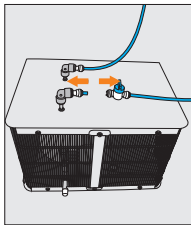
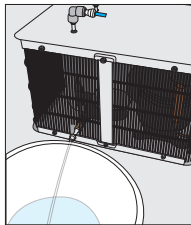
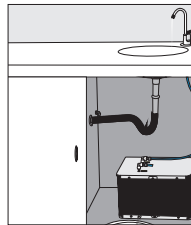
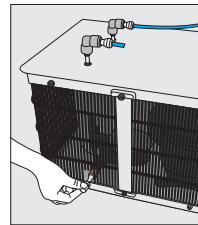

Figure 22
Figure 23
Figure 24
Figure 25
- 1.2 Disconnect the water line from the "Water Inlet" point (Figure 22). Undo the drain cap and completely drain all the water from the reservoir into a bucket for disposal (Figure 23). Leaving the faucet valve open will speed up this operation (Figure 24). Replace the cap (Figure 25). Disconnect filters and other devices so water line is clear to the reservoir.